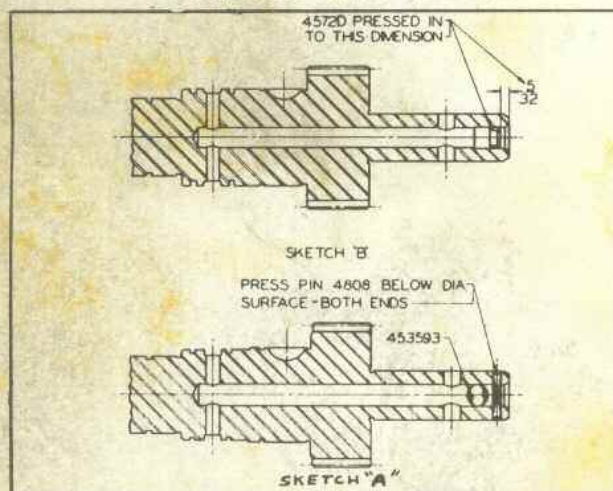

Fig. 102 Versions of Drive Gear and Plug Assemblies
17. The two methods of sealing the end of the drive gear are illustrated in (Fig. 102). Sketch "B" illustrates the method now used and sketch "A" the method formerly used. The two drive gear assemblies, varying only in the method of sealing the end of the shaft, are fully interchangeable.